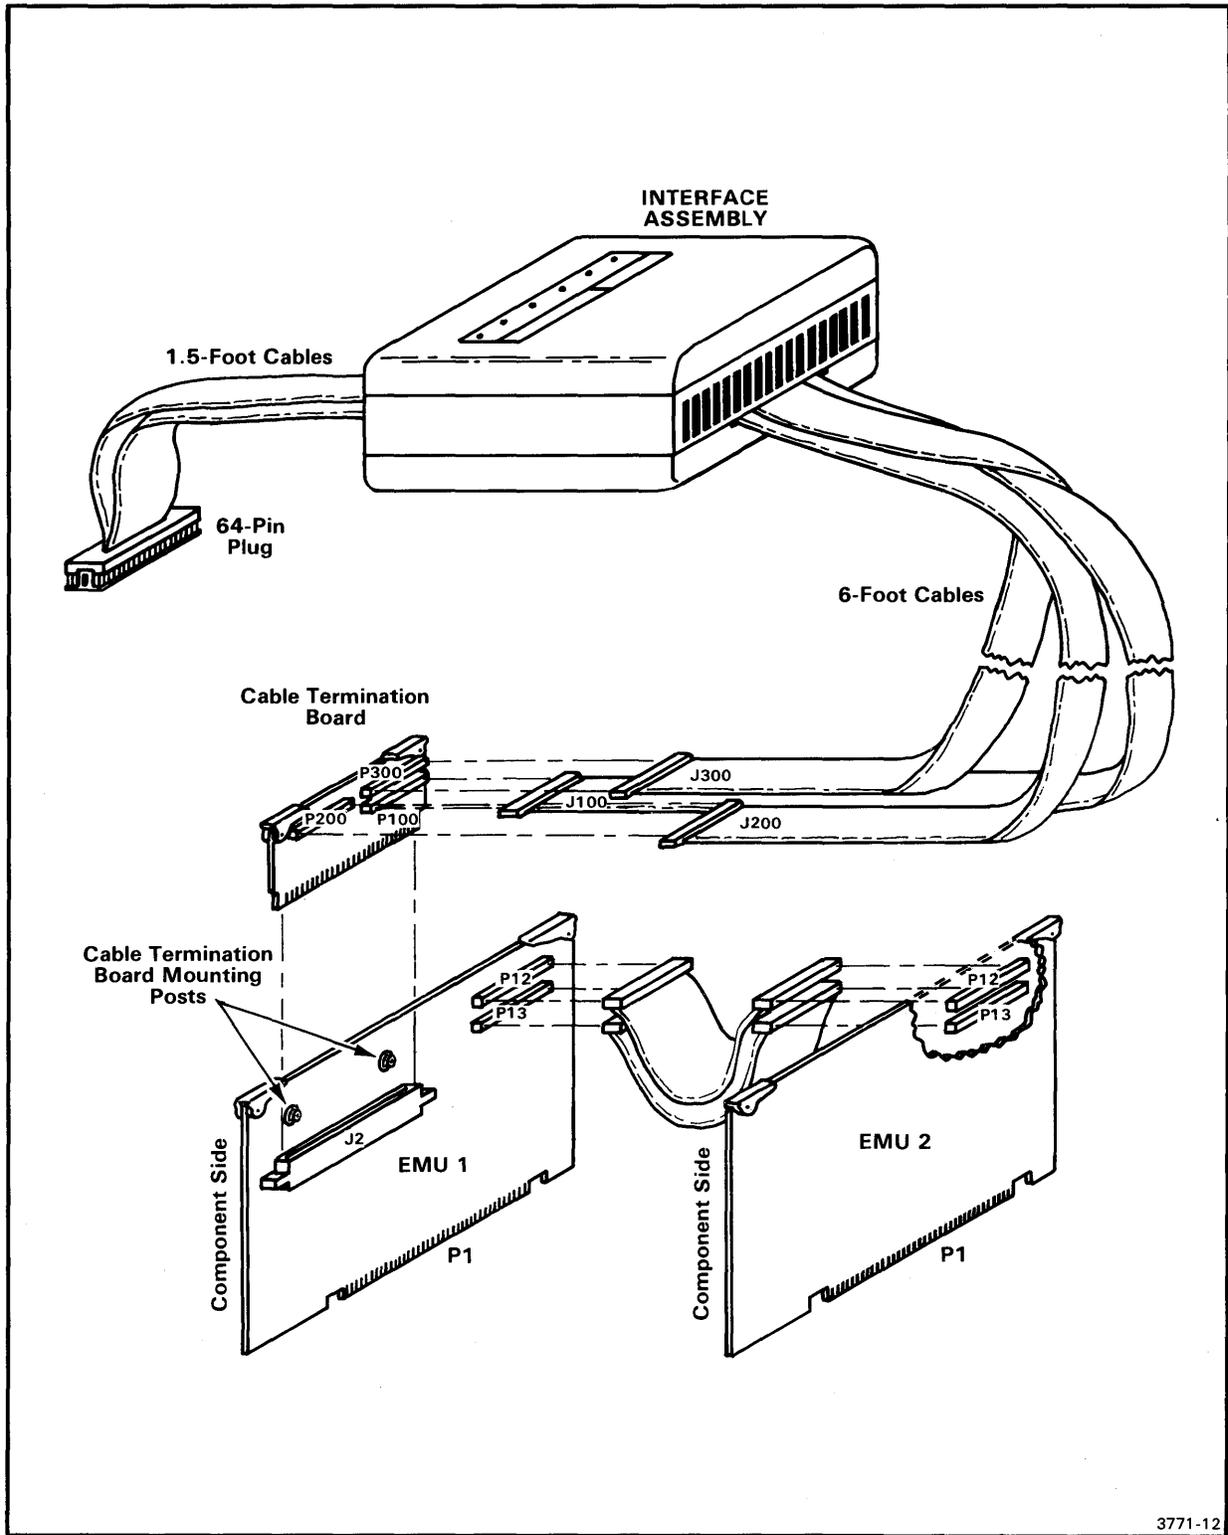

Fig. 3-2. 68000 Emulator Processor with Prototype Control Probe.
4. Remove the two retaining screws from the Cable Termination board mounting posts located on EMU 1 (see Fig. 3-2).
14. Attach the ribbon cable connector labeled J300 to P300 (refer back to Fig. 3-2). Be sure that pin 1 of the cable connector (blue stripe) and pin 1 of the module socket align and are to the left when viewed from the component side of the module.